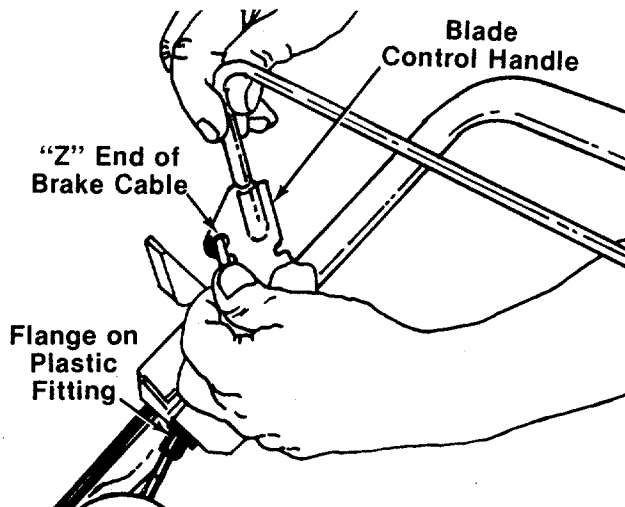

FIGURE 6.
9. Snap the plastic fitting on the end of the cable into the control housing. Hook the "Z" end of the brake cable into the hole in the blade control handle. See figure 6. If additional slack is needed in order to hook the cable into the handle, proceed as follows: